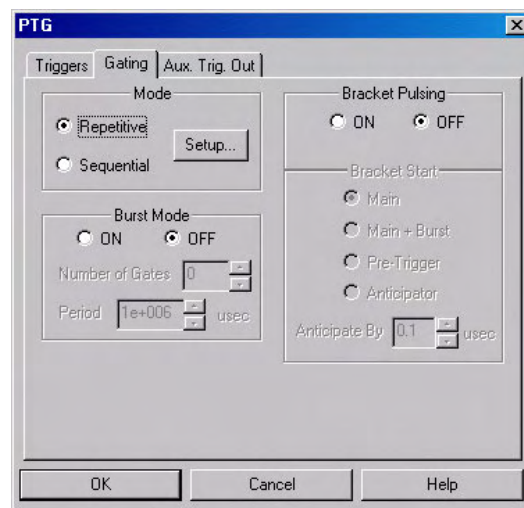

Figure 129. PTG Gating tab page
7. Click on the **Gating** tab (Figure 129).